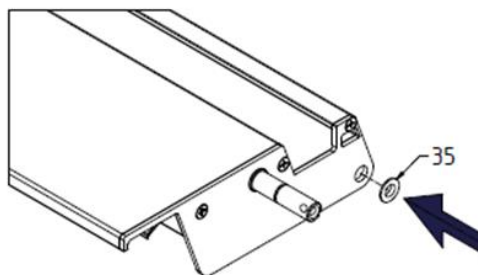

Fig. 13
12. Fit the bearing bushing (35) supplied in the accessories into each pen, pressing it carefully from the outside into the pen drive cap in the corner hole - as shown in fig. 13.